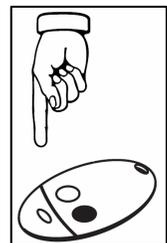

FIG. 14
5. The display will show “Desired button”. Press the button you want to activate the gate with as shown in Fig. 14.